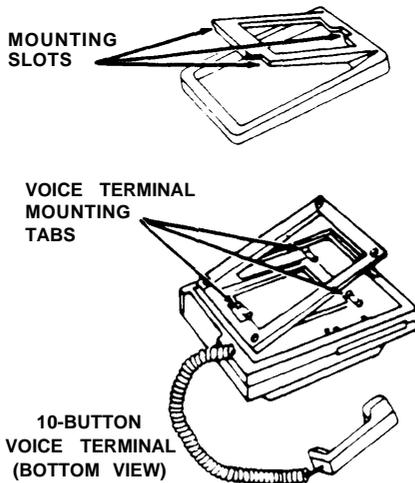

Figure 1
2. Position the stand on the back of the voice terminal so that the stand's mounting slots fit just below the mounting tabs of the voice terminal (see Figure 1).